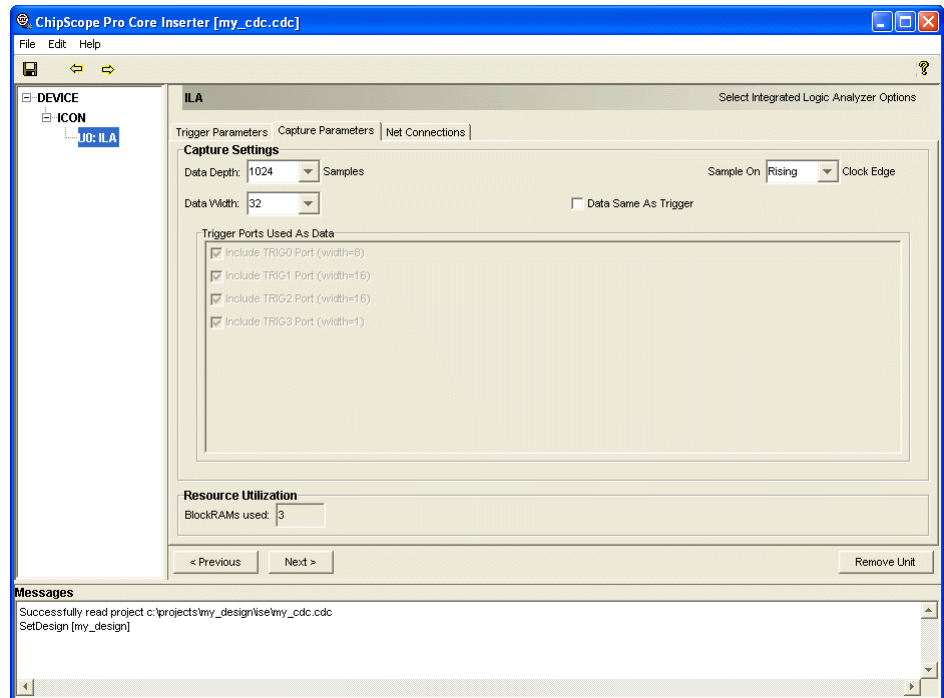
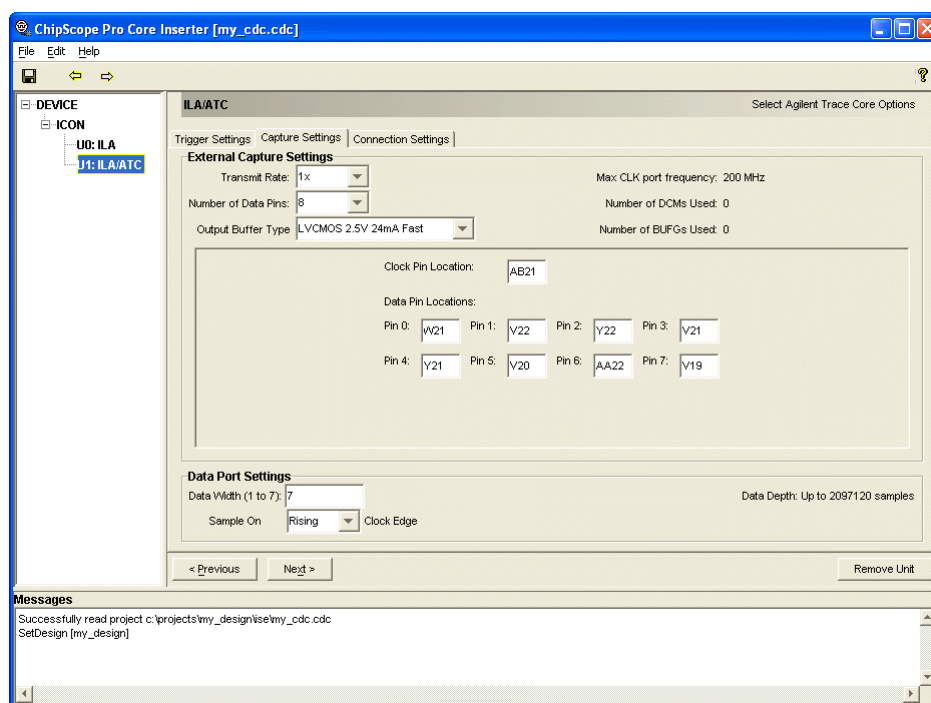

Figure 3-11: ILA Core Capture Parameters
Figure 3-13: ILA/ATC Core Data Settings
The second tab in the Core Inserter that is used to set up the of the capture parameters of the ILA core (Figure 3-11). The capture parameters for ILA are different from ILA/ATC (see Figure 3-13, page 3-17).
- **Data Separate from Trigger (Figure 3-11)**
If you are inserting an ILA/ATC core, the Capture Settings look like those in Figure 3-13.